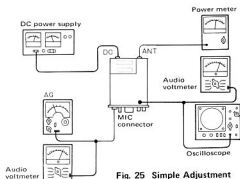

Fig. 25 Simple Adjustment of Modulation Factor
- (1) Connect as shown in Fig. 25.
- (2) Apply a signal of 1 kHz 15 mV from AG to the microphone terminal, and adjust VR4 until the AF valve voltmeter connected to terminal T reads 0.54 V.
- (3) Adjust the AG output to 1.5 mV, and adjust VR3 until the voltage at terminal T is 0.35 V.